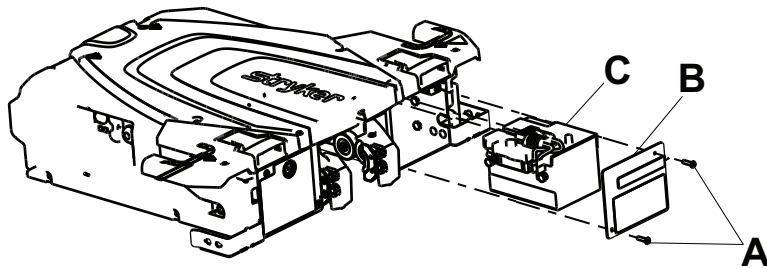

Figure 43 – Battery housing components
2. Using a T25 Torx driver, remove the two button head cap screws (A) that secure the rear trolley plate cover (B) to the trolley frame (Figure 43). Remove the cover. Save the screws.
3. Pull to remove the battery housing assembly (C) (Figure 43).